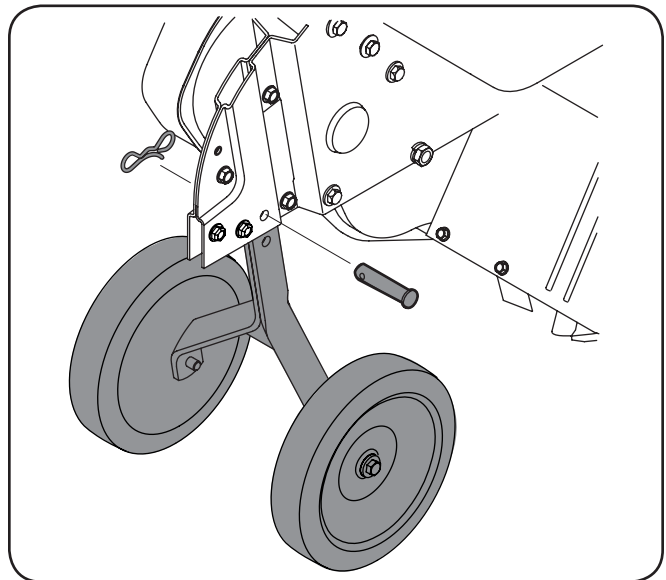

Figure 3-2
1. Remove the remaining clevis pin and cotter pin from the manual bag, install the wheel assembly into the chain case bracket as shown in Figure 3-2.